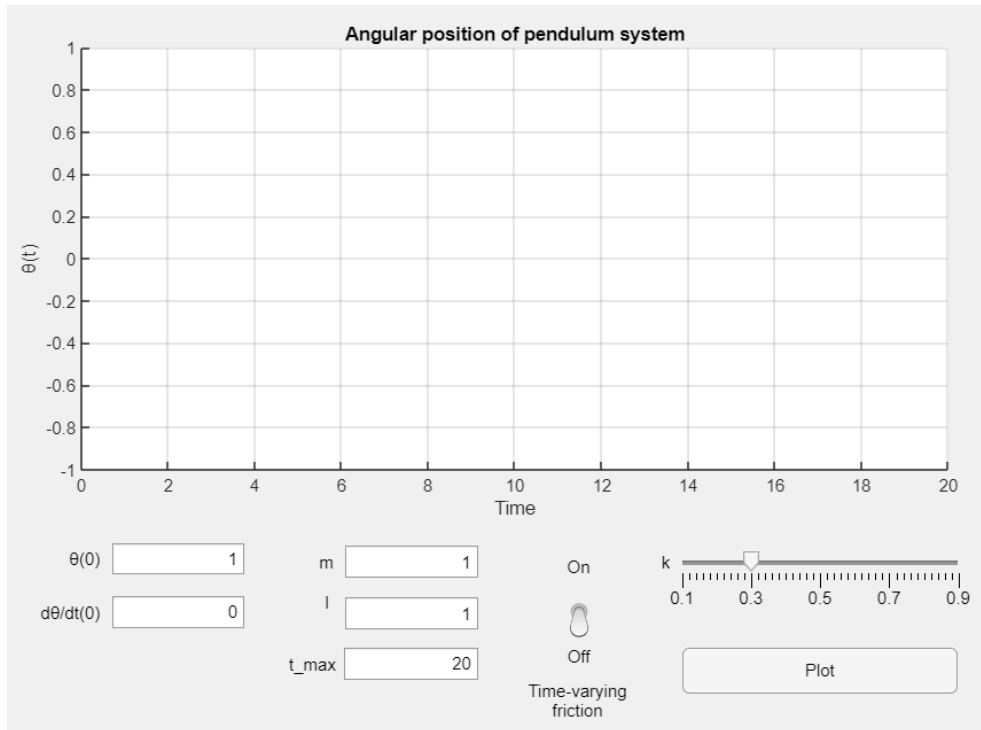

Figure 3: Simulation layout
(a) Drag the components shown in Figure 3 from the Component Library onto the canvas.
- $\theta(0)$ and $\dot{\theta}(0)$, denoted by $d\theta/dt(0)$ in Figure 3, can take any value from $-\infty$ to ∞ .
- The switch changes the friction. If it is 'On' then the friction is time-varying and is equal to (2). Otherwise, the friction is constant and is equal to k . In this case, the second equation of (3) changes to:
- The default values for $\theta(0)$, $d\theta/dt(0)$, m , l , t_{\max} , the time-varying friction switch, and k should be the same as the ones shown in Figure 3. The default axes limit for the figure should be the same as the values in Figure 3: $x_{\min}=0$, $x_{\max}=20$, $y_{\min}=-1$, $y_{\max}=1$.